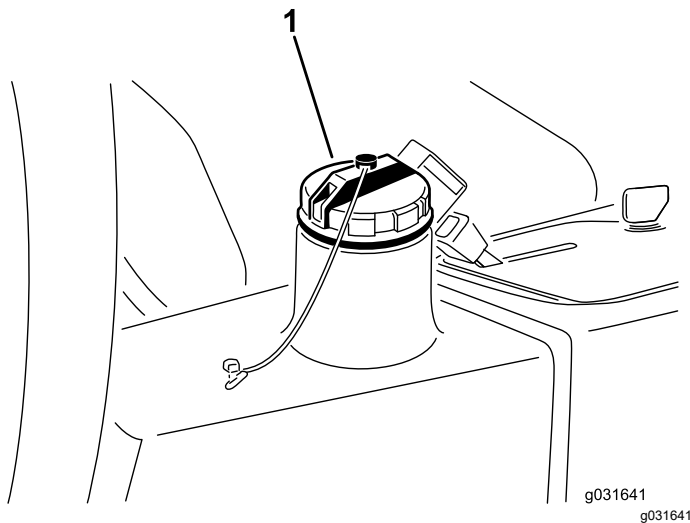

Figure 66
4. Fill the reservoir (Figure 66) with approximately 13.2 L (3.5 US gallons) of hydraulic fluid; refer to Hydraulic Fluid Specifications \(page 54\) and Checking the Hydraulic Fluid Level \(page 55\).